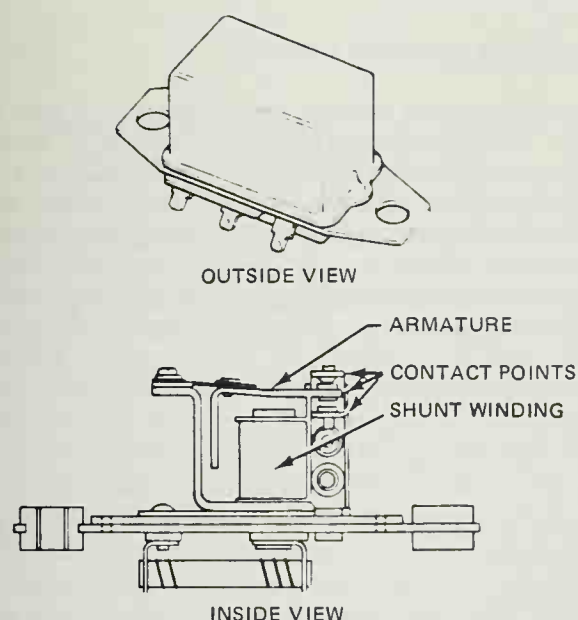

Figure 20-20. Mechanical voltage regulator.
The voltage regulator shown in Figure 20-20 consists of a magnetically operated switch that at appropriate times di-
The regulator consists of a coil of wire wound around an iron core. The winding is usually referred to as a *shunt winding*. The winding and core are assembled together onto a metal frame, to which a flat steel armature is attached by a temperature-sensitive hinge. The hinge bends to allow the armature to move toward the core when it is magnetically attracted by current flowing in the shunt winding. The hinge acts as a pivot point, and the magnetic attraction is opposed by an adjustable helically wound spring expansion located on the other side of the pivot point. Two sets of contact points, an upper and a lower, are insulated electrically from each other and mounted on the armature assembly (Figure 20-20). A stationary set of contacts is located between the upper and lower contacts. With this arrangement, the contact points may be positioned so that either (1) the lower set will be closed, (2) the upper set will be closed, or (3) both sets will be separated. The spring tension holds the lower contacts closed when the regulator unit is not operating.